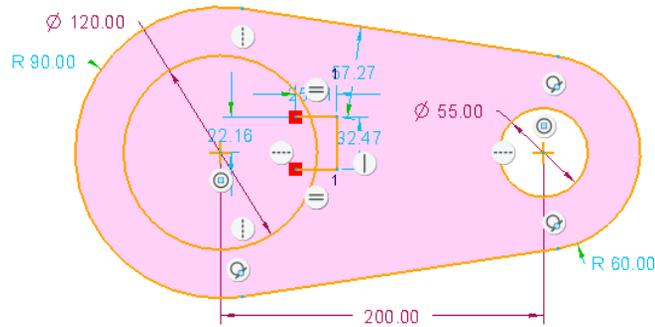

Figure 3-32 Sketch of the keyway with weak dimensions and constraints
2. Draw the keyway, as shown in Figure 3-32; the weak dimensions and constraints are automatically applied to the sketch of the keyway.